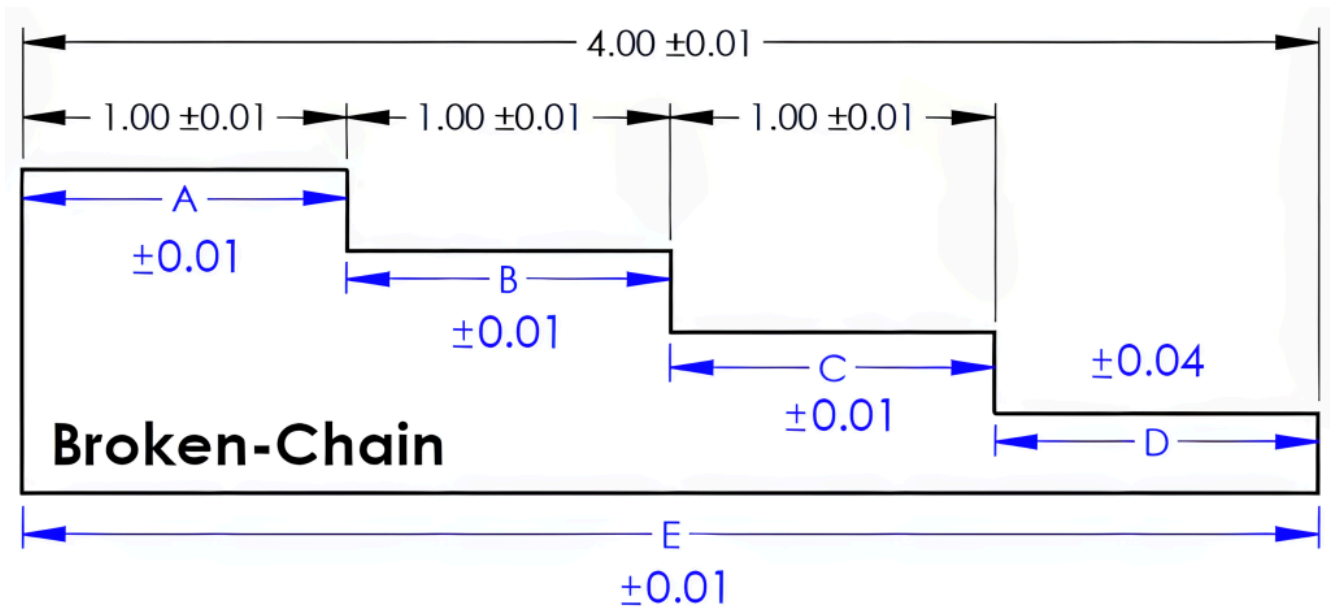

Figure 8-12. Broken-chain dimensioning effects on tolerance.
Figure 8-12 uses broken-chain dimensioning. In this example, length D is left undimensioned. To obtain the length of D, lengths A, B, and C are to be subtracted from the overall length E. The tolerance of each length will stack together in length D for a ± 0.04 tolerance for this dimension. The formula below shows the LMC of lengths A, B, and C subtracted from the MMC of the overall length (E), resulting in a 1.04 maximum length for D. The calculation for the minimum length for D begins with the LMC for the overall length and then subtracts the maximum lengths of A, B, and C for a 0.96 minimum length for D.